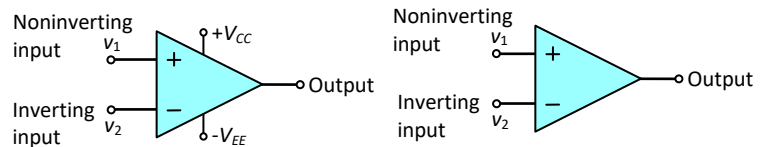

Fig.6-1: Electrical symbol of operational amplifier
In electronics, the most important and common analog **integrated circuit** (IC) is the operational amplifier or shortly op-amp. An **operational amplifier** is a high-gain amplifier circuit with two high-impedance input terminals and one low-impedance output terminal as shown in Fig.6-1. As operational amplifiers are built in IC, they possess many advantages like: small size, low cost, high reliability, low offset voltage and current, temperature tracking properties etc.
The operational amplifier is represented by a symbol as shown in Fig.6-1. The symbol of an op-amp has two inputs: one is inverting input denoted by '-' sign and the other is noninverting input denoted by '+' sign. The symbol has one output. Power supply connection may be shown in the symbol or not. A